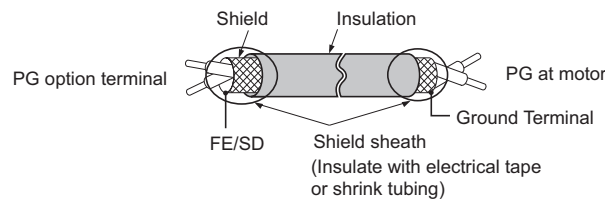
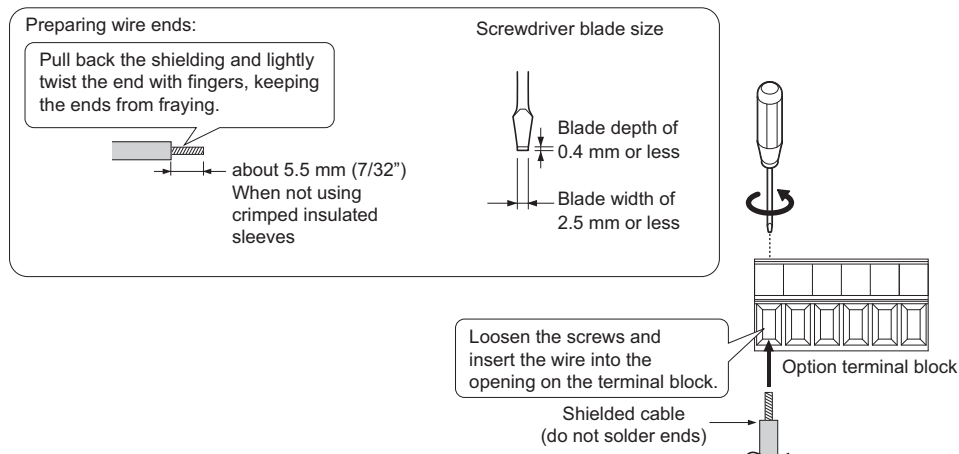

Figure 8.7 Preparing Ends of Shielded Cable
Figure 8.8 Preparing and Connecting Cable Wiring
2. There are two screw holes on the drive for use as ground terminals (H). When connecting three options, two ground wires will need to share the same drive ground terminal.
4. Prepare and connect the wire ends as shown in **Figure 8.7** and **Figure 8.8**. Refer to **Wire Gauges and Tightening Torques on page 428** to confirm that the proper tightening torque is applied to each terminal. Take particular precaution to ensure that each wire is properly connected and wire insulation is not accidentally pinched into electrical terminals.